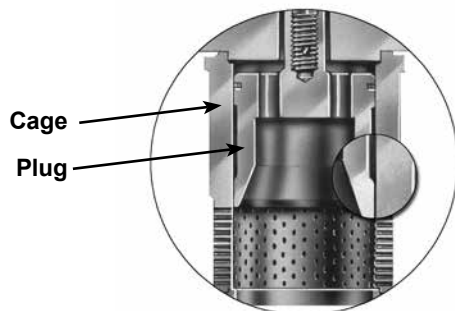
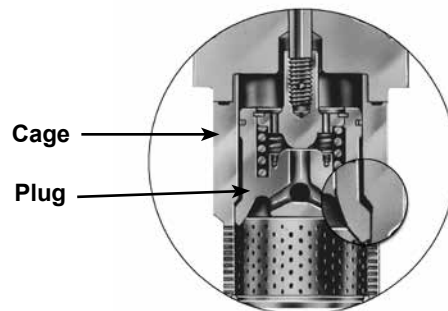

Figure 4 - Straight plug design
Figure 5 – Bell shaped plug, pilot design only
1. Remove the valve plug assembly from the valve cage by pulling the valve plug stem upward. In the case of the bell-shaped plug design (see Figure 5); pulling the plug stem will remove both the plug and cage together. For straight plug designs (see Figure 4), after removal of the plug lift the the cage to remove from the valve body.